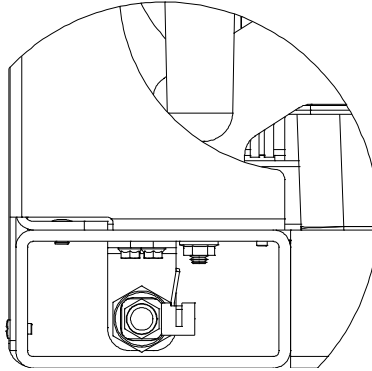

Figure 3: Engine Oil Drain Valve
- Locate the drain port inside the rectangular tube below the radiator, and behind the bottom left corner, of the front service panel (Figure 3).